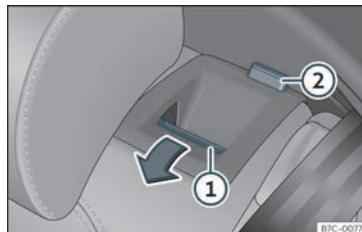

Fig. 106 Rear seat: folding the backrest.
- Press the unlock button»» **Fig. 106**  forwards and at the same time fold the backrest down. The rear seat backrest is not engaged when the red marking of the button  is visible.
The rear seat backrest is not engaged when the red marking of the button  **Fig. 106**  is visible.